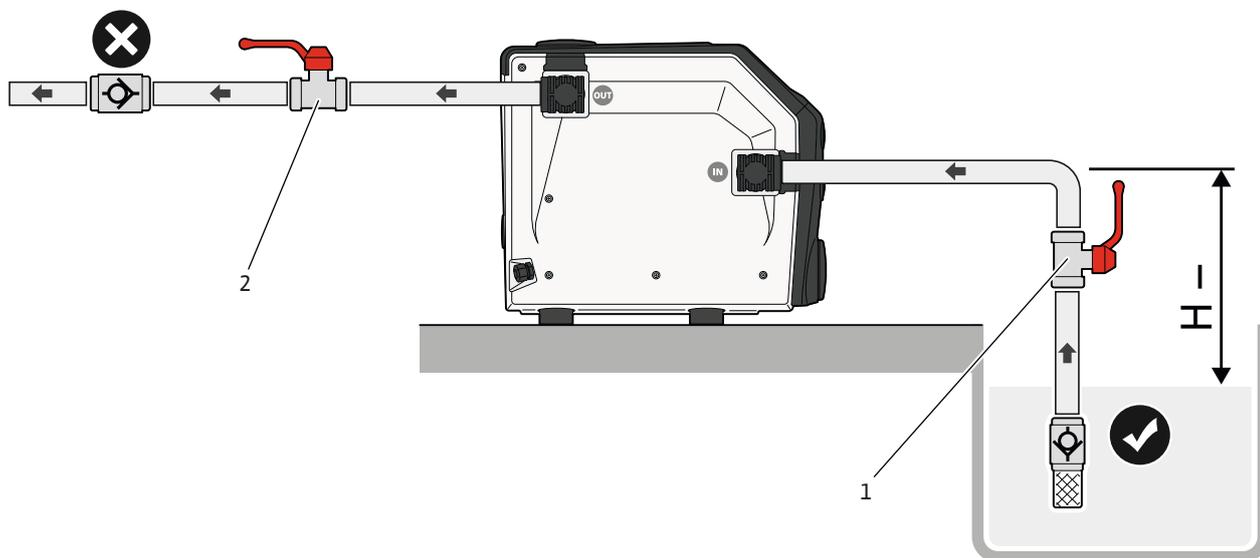

Fig. 7: Suction mode
1. Close the gate valve (Fig. 7 – Item 1, 2) at the suction and discharge sides.